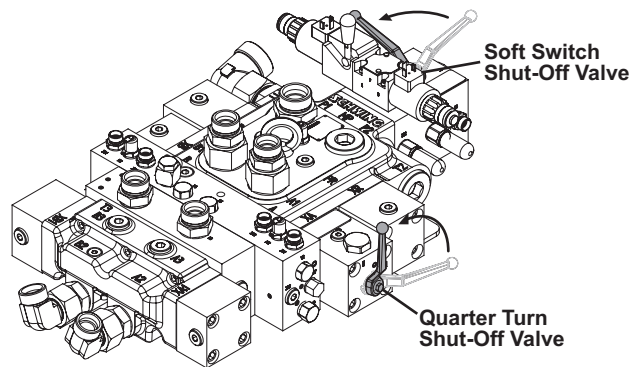

Figure 40
1. With the engine running and E-stops cleared, increase the throttle to maximum RPM. Close the quarter turn and soft switch valve (Figure 40).